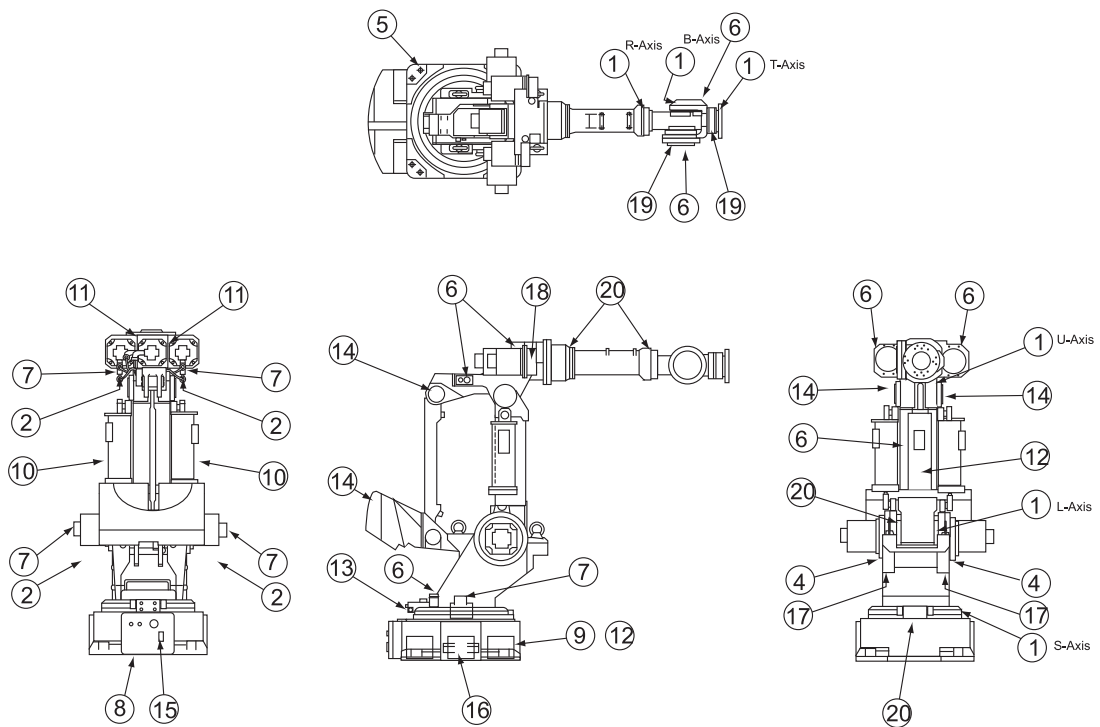

Fig. 19 Inspection Parts and Inspection Numbers
⑩ S-, L- and U-axes cross roller bearings R-axis taper roller bearing(SK400X)			○				Grease Gun	Check for malfunction. (Replace if necessary.) Supply grease ^{*3} (6000H cycle).		○	○
⑪ Overhaul						○					○
- *4** Inspection No. correspond to the numbers in " Fig. 19 Inspection Parts and Inspection Numbers ".